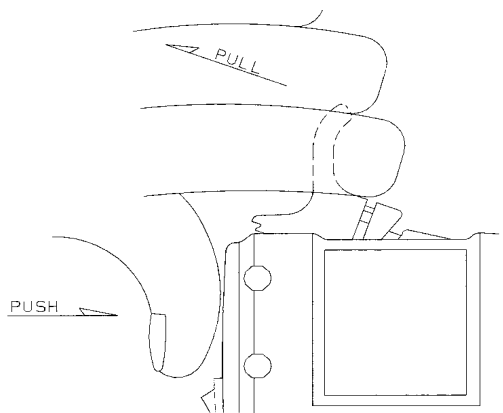

FIGURE 2
2. Place thumb on rear of tool (**see Figure 2**) and hook index finger around the holder. Push against the rear of the tool while pulling on holder with index finger. The holder should release from the tool. Remove the holder and collection chamber, twist the holder back and forth while removing.